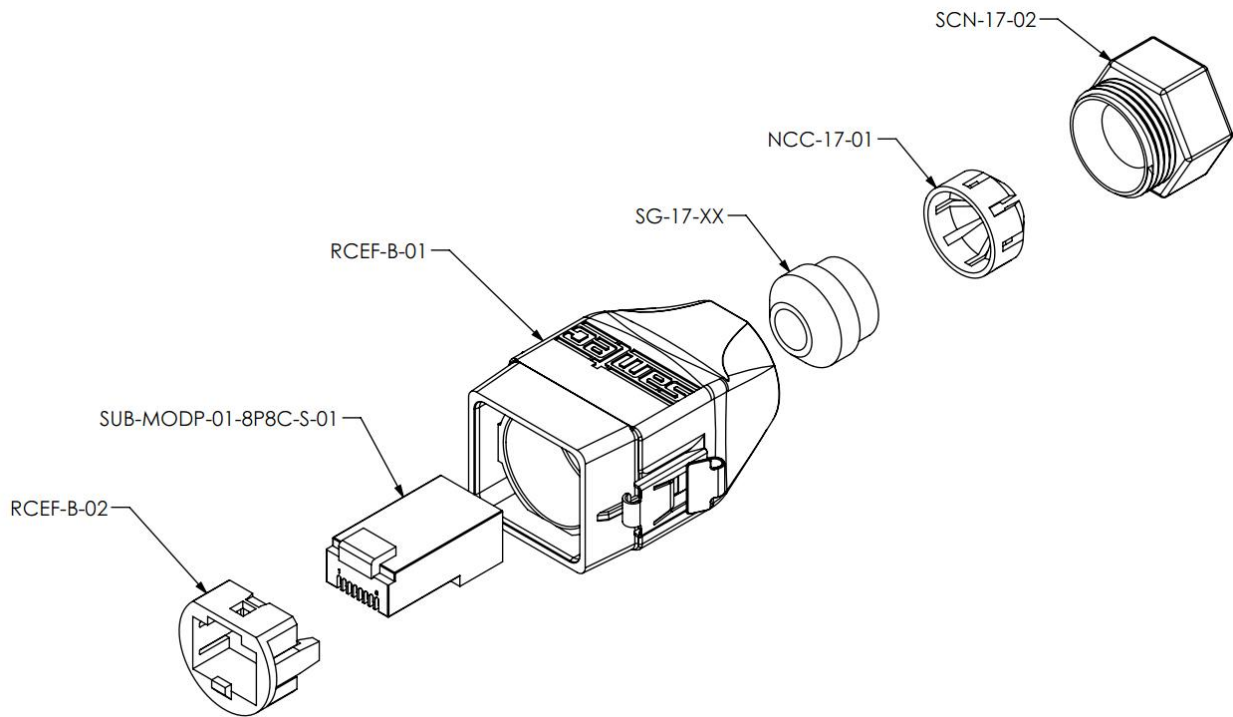

Figure 4.2 Waterproof connector assembly
- ❑ See **Figures 4.2 and 4.3** for assembly.